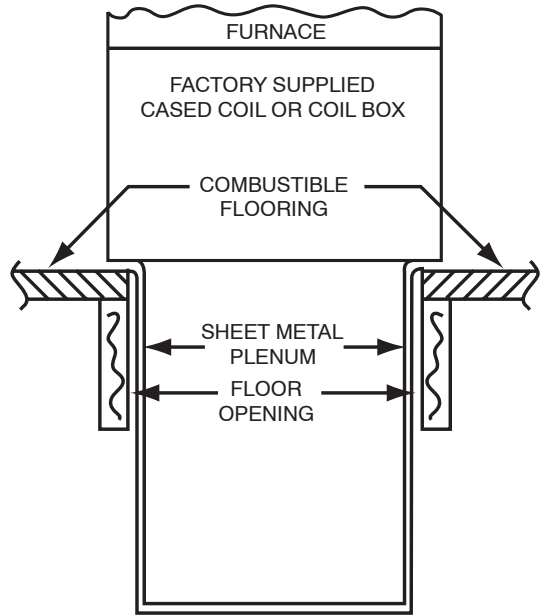

Fig. 21 - Furnace, Plenum, and Coil Assembly or Coil Box Installed on a Combustible Floor
5. If Manufacturer's Cased Coil Assembly or Manufacturer's Coil Box is used, install as shown in Fig. 21.